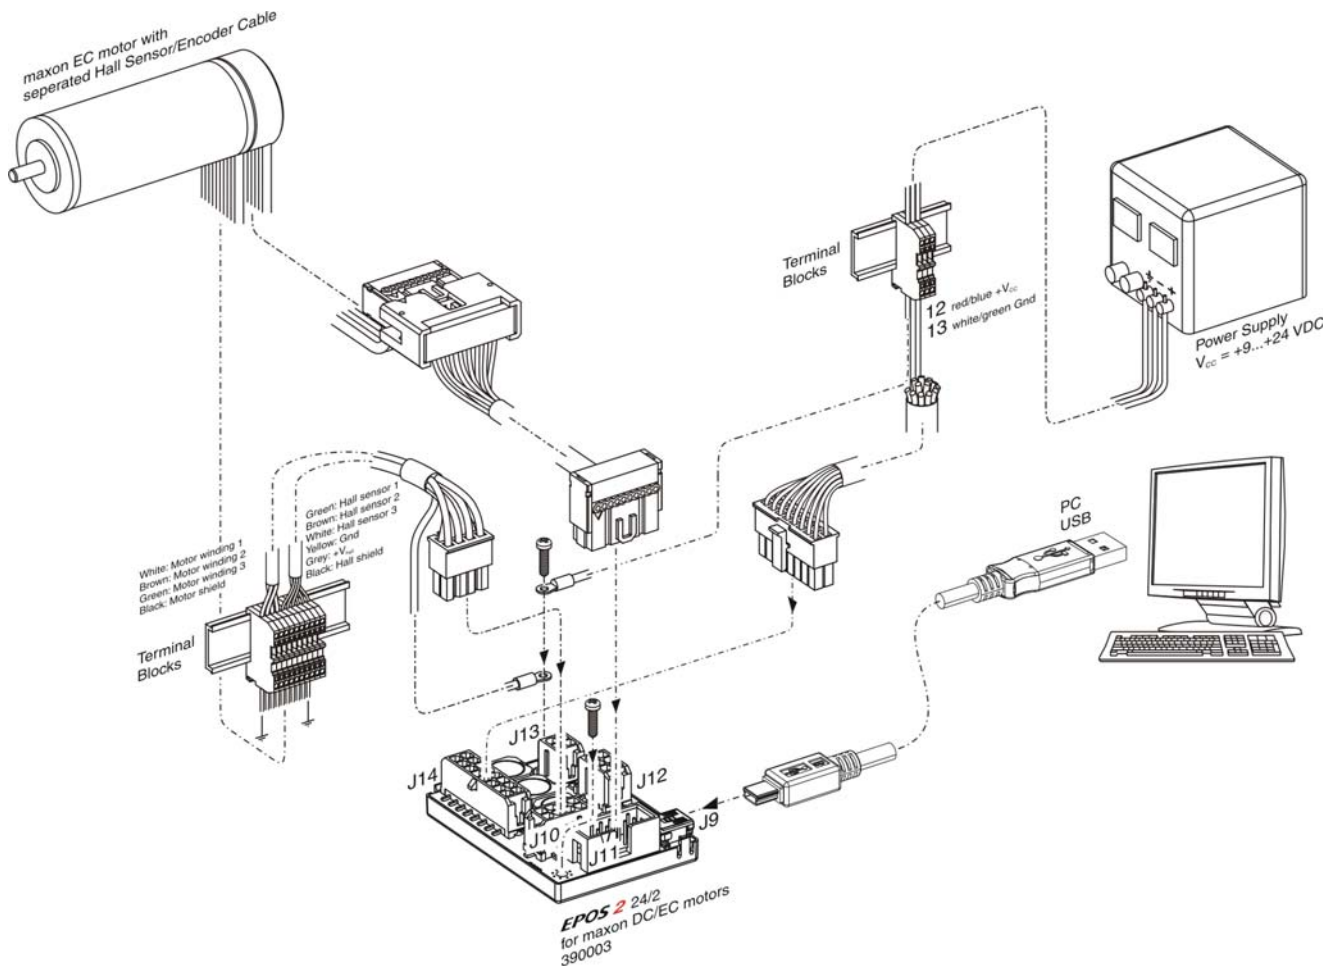

Figure 3-6 Minimum Wiring: maxon EC motor (separated Hall Sensor/Encoder Cable)
- 2) Connect maxon cable assemblies (→ Table 3-8 and Figure 3-6).